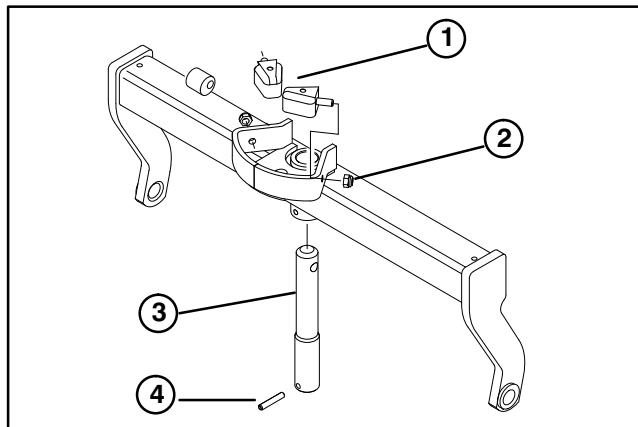

Figure 6
8. With (2) flangenuts, install (2) bumpers to new carrier frame as shown in figure 6.
9. Install new pivot pin to carrier frame with roll pin as shown in figure 6.